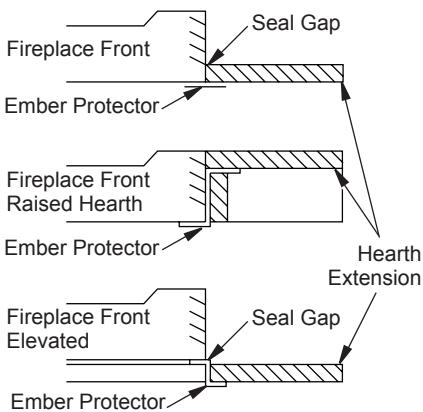

Figure 3 - Hearth Extension
Thermal conductivity "K" of materials can be obtained from the manufacturer or supplier of the noncombustible material. If the hearth extension is to be covered, use noncombustible material such as tile, slate, brick, concrete, metal, glass, marble, stone, etc. Provide a means to prevent the hearth extension from shifting and seal gap between the fireplace frame and hearth extension with a noncombustible material (see Figure 3).
**WARNING:** Hearth extension is to be installed only as shown in Figure 3.